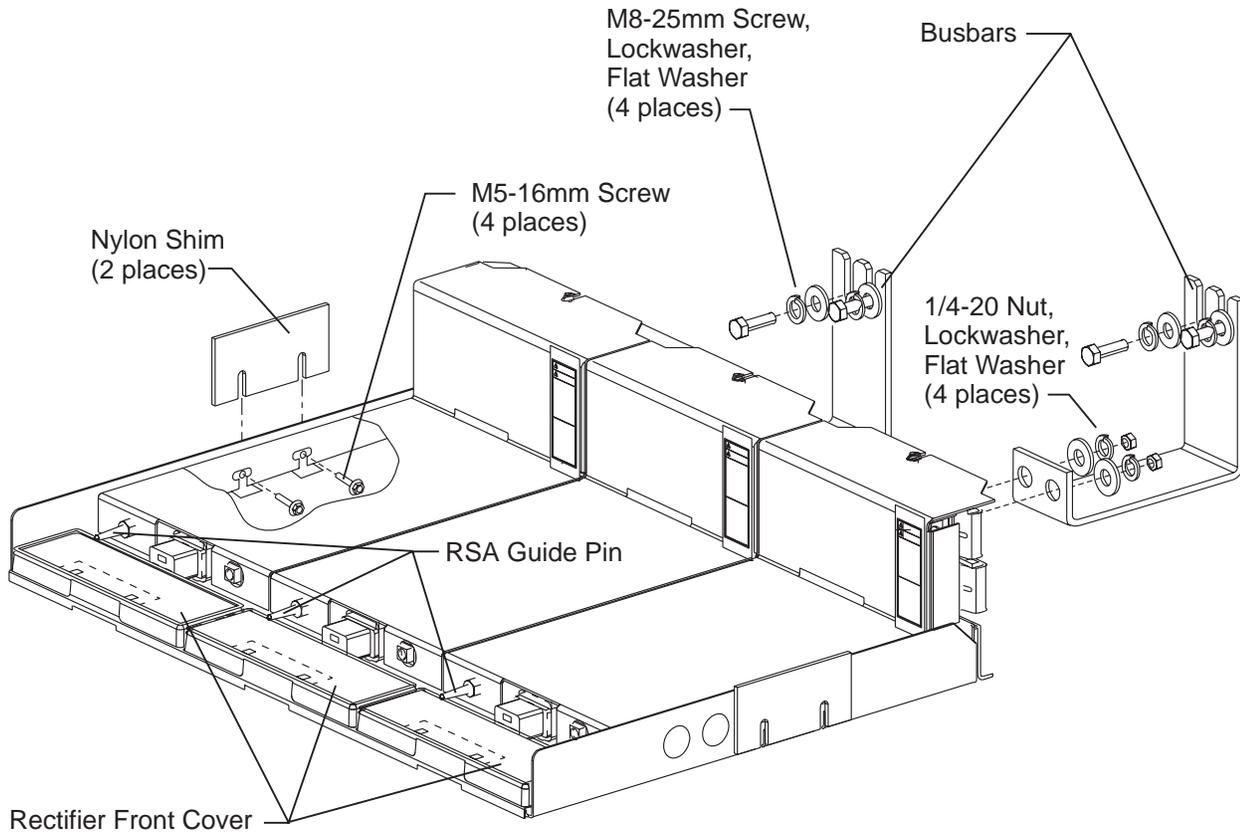

Figure 5-4: Rectifier Shelf Installation
1. Refer to Figure 5-4. Mount the bus bars onto the RSA as shown in the rear view of the RSA. Secure using the 1/4-20 hardware, and torque to 50 in-lb (5.6 Nm).